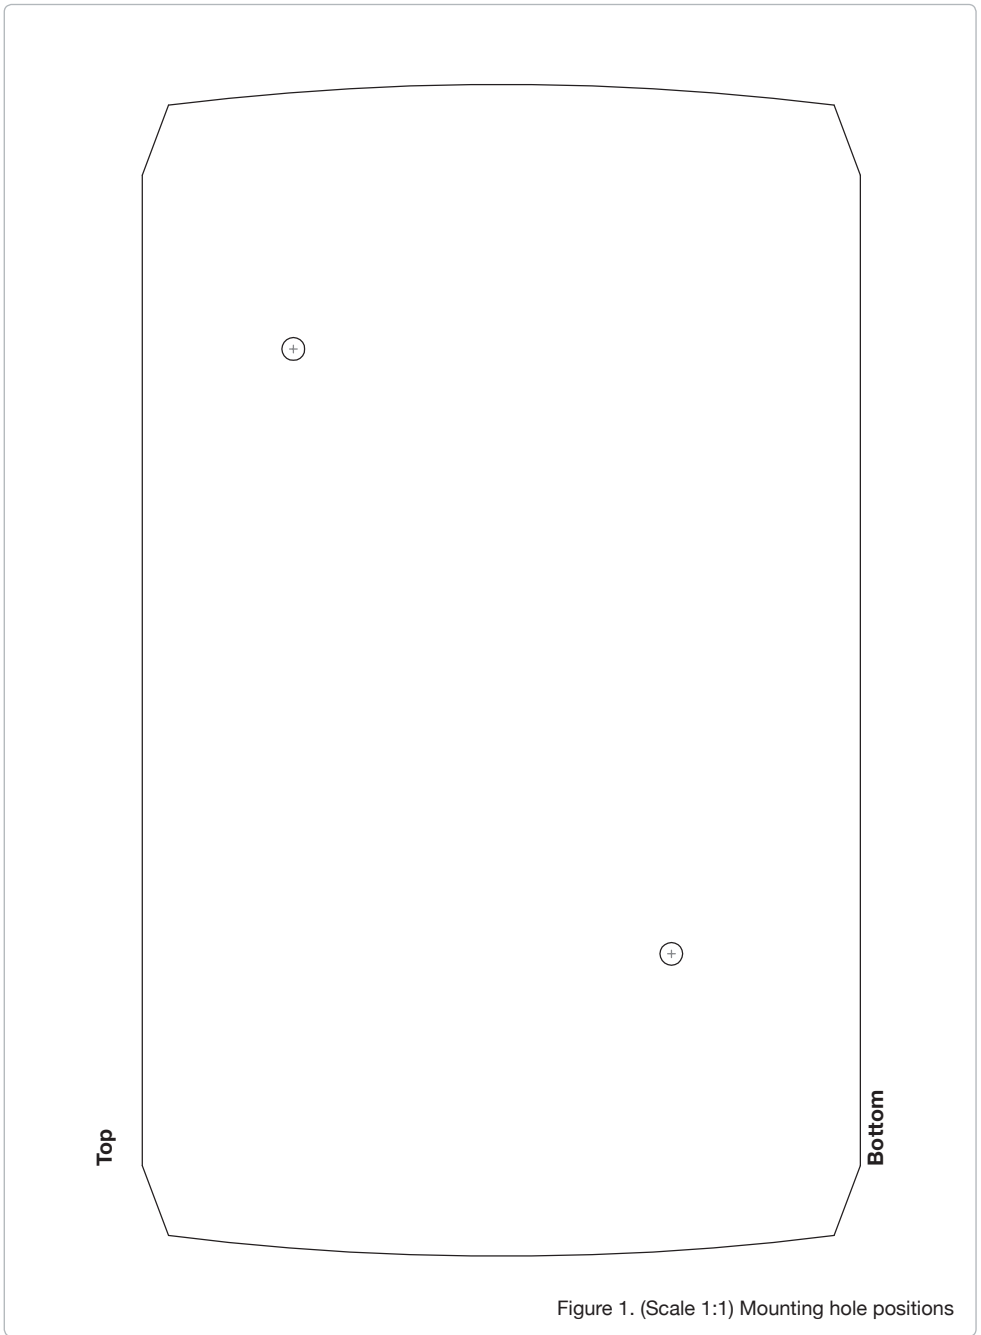

Figure 1. (Scale 1:1) Mounting hole positions
1. Using the template provided on page 15 of this instruction manual (figure 1), mark the fixing positions on the wall.